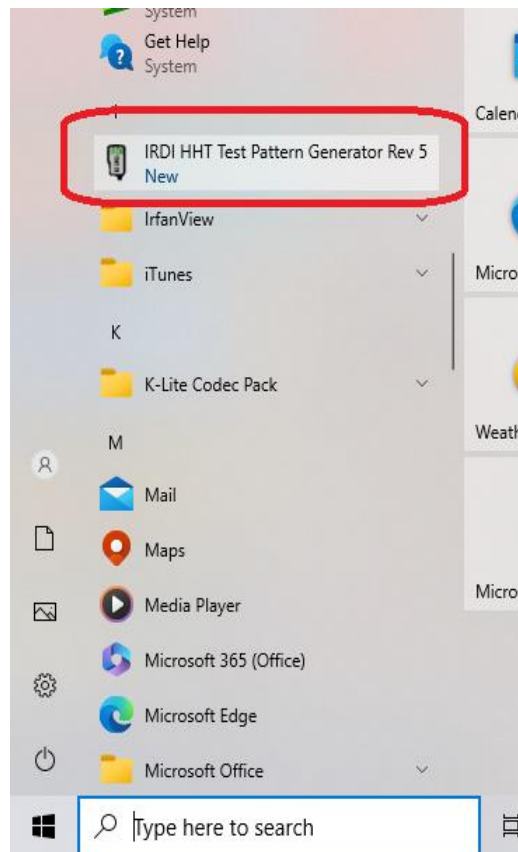

FIGURE 5-10 SOFTWARE SHORTCUT IN START MENU
STEP 1	Locate the program in the Windows Start menu – see Figure 5-10.